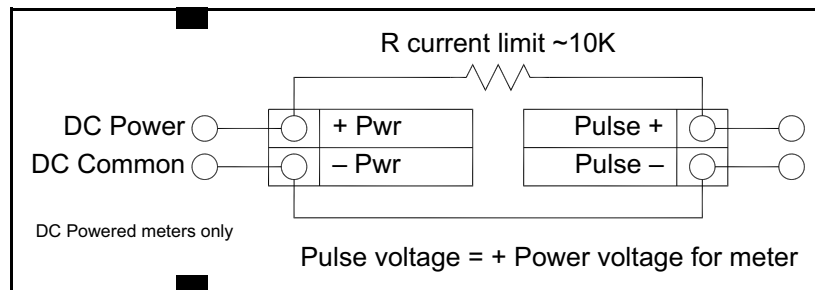

Figure 43: Non-Isolated Pulse Output Using Input Power Supply
- For DC powered meters only, use the flow meter power supply (see *Figure 43 on page 44*). Use this option if the voltage at the flow meter power supply is an acceptable driver voltage for the connected load, taking into account that the current used by the pulse load comes from the meter's power supply.